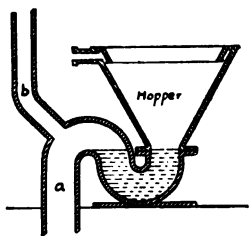

FIG. 344.—SHORT HOPPER CLOSET
**355. Short Hopper Closet.** This is the oldest type of closet permitted by law in communities where there are regulations concerning plumbing fixtures. The water seal (Fig. 344)